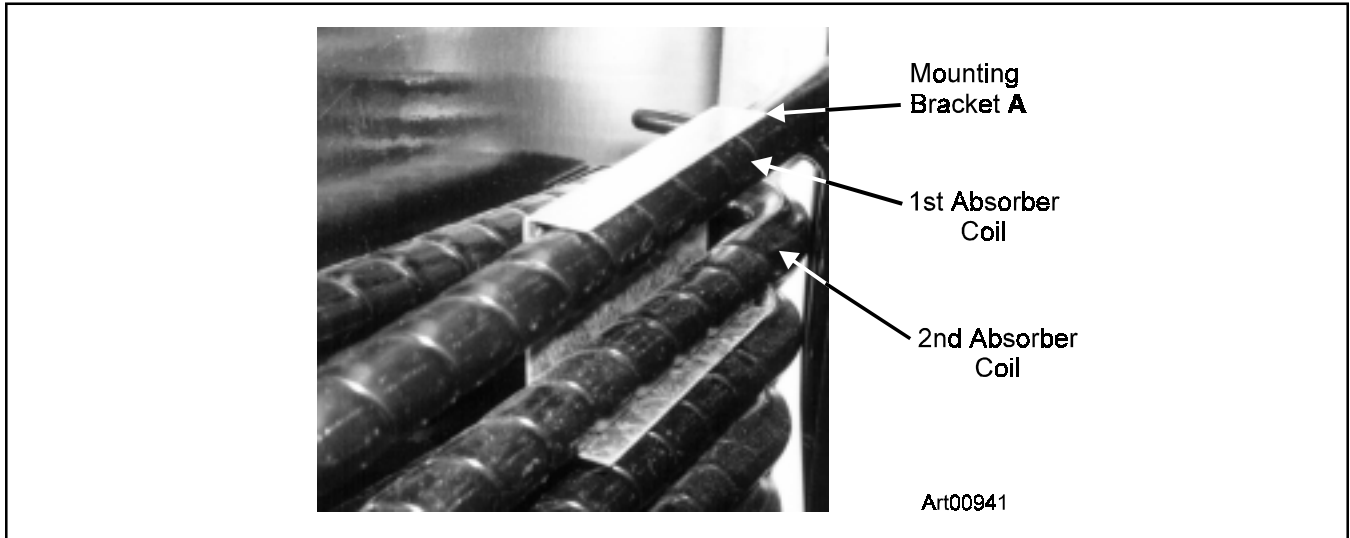

Figure 3
1. Position mounting bracket **A** (See Tools and Parts List, #I) around the top of the two absorber coils. Make sure the wider flange of mounting bracket **A** is to the bottom. The flanges of mounting bracket **A** face away from the refrigerator cabinet. See Figure 3.